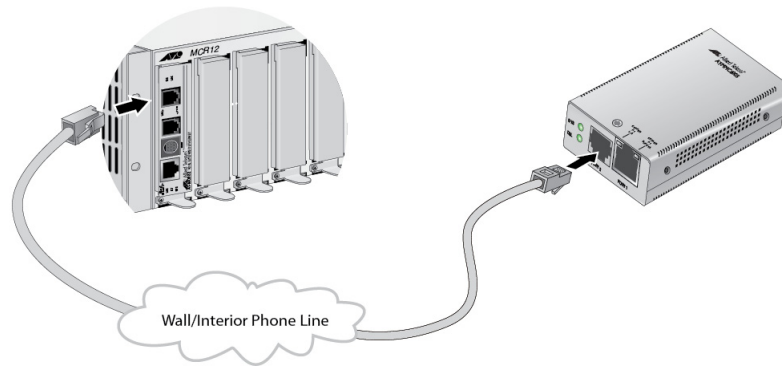

Figure 14. VDSL Line to Wall/Interior Phone Line
2. Connect a telephone line cable from the VDSL Line port to the wall/ interior telephone line, as shown in Figure 14 on page 41, so that the Subscriber unit can communicate with the Provider unit.